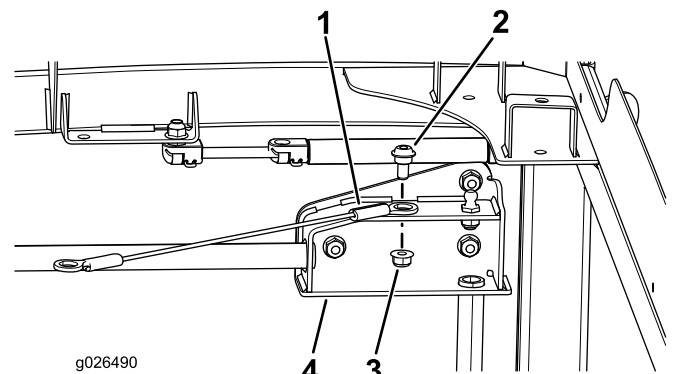

Figure 6
1. Assemble the lanyard to the door-frame hinge with a shoulder bolt (5/16 x 1/2 inch) and a locknut (5/16 inch) as shown in Figure 6.